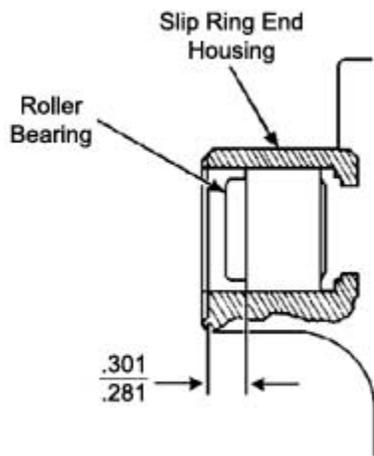

Figure 16
4. Place SRE housing in an arbor press so housing cavity faces down. Press new roller bearing in bearing bore to dimension shown in Figure 16.